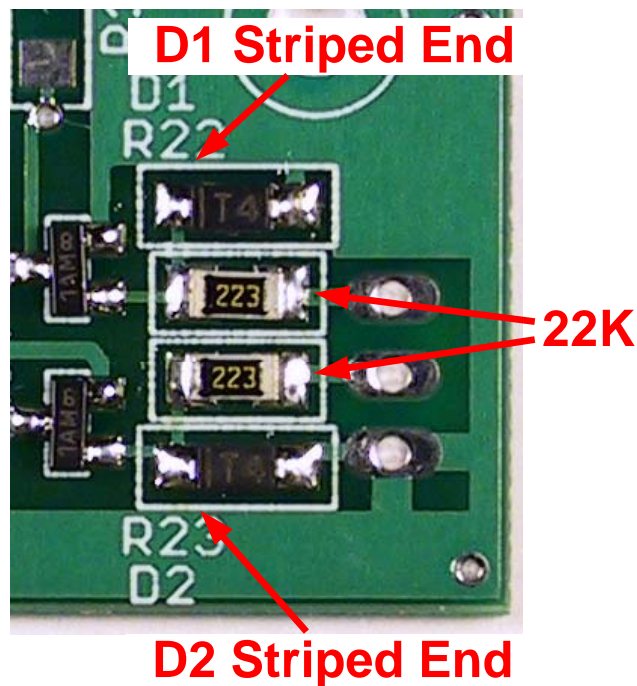

Figure 9. D1, D2, R22, R23 Locations
- ☐ Remove the strip of 22K resistors from Bag 2. These are marked 223. Refer to **Figure 9**. Install them at:
- ☐ Remove the strip of 1N4148 diodes from Bag 1. These are marked T4. Refer to **Figure 9**. The striped ends are closest to Q1 and Q2. Install them at: